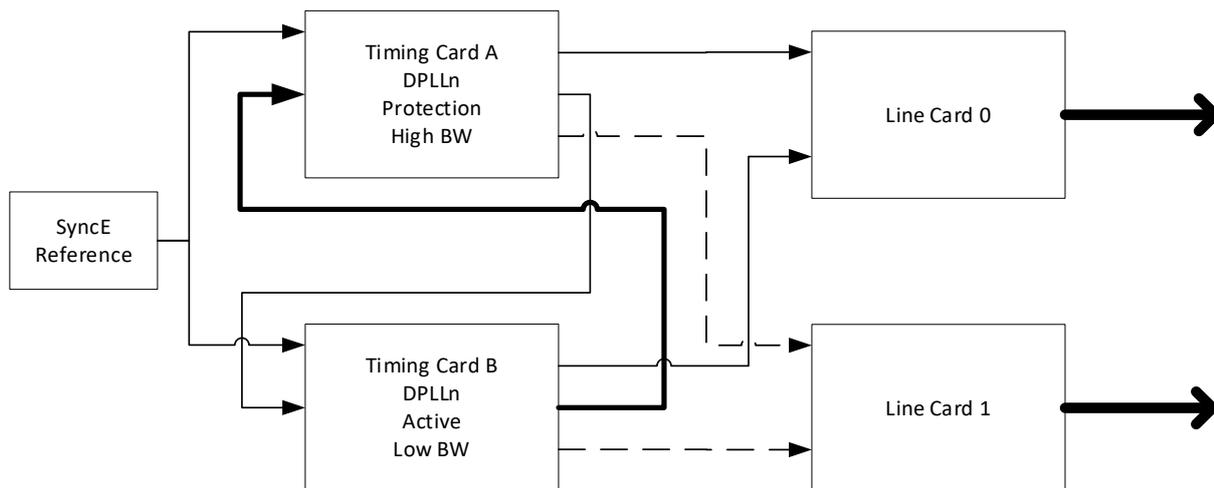

Figure 2. Diagram with Timing Card “B” Active
- Figure 2. Diagram with Timing Card “B” Active3
After the switch, Timing Card B locks to the external reference with a low (SyncE) bandwidth. Timing Card A locks to Timing Card B. The line cards lock to Timing Card B. Figure 2 shows the diagram after the switch (with Timing Card B active).